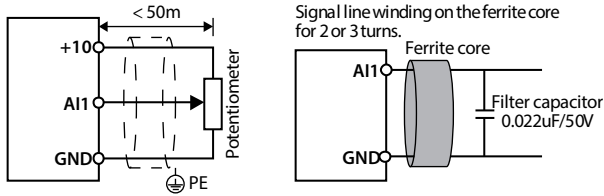
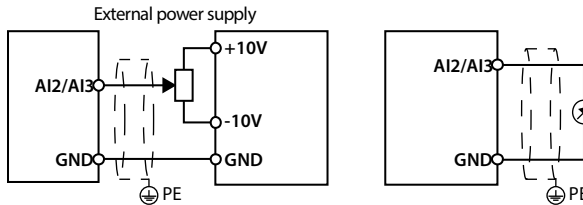

Figure 4-10 AI1 connection
Figure 4-11 AI2/AI3 connection
The AI1 is voltage input and the range is 0 - 10V, as shown in Figure 4-10.
2. In serious interference occasions, the analogue input signal should add filter capacitor and ferrite core, as shown in Figure 4-10.
AI2/AI3 are selected as voltage input and the range is -10 - +10V. When selecting internal +10V of HD5L, refer to Figure 4-10; selecting +/-10V external supply, refer to Figure 4-11.
AI2/AI3 are selected as current input and the range is 0 - 20mA, refer to Figure 4-11.